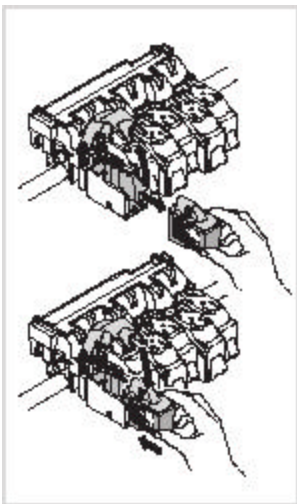

Figure 6
3. Open the carriage door (pull out, then up) and remove the cartridge. (Figure 6)